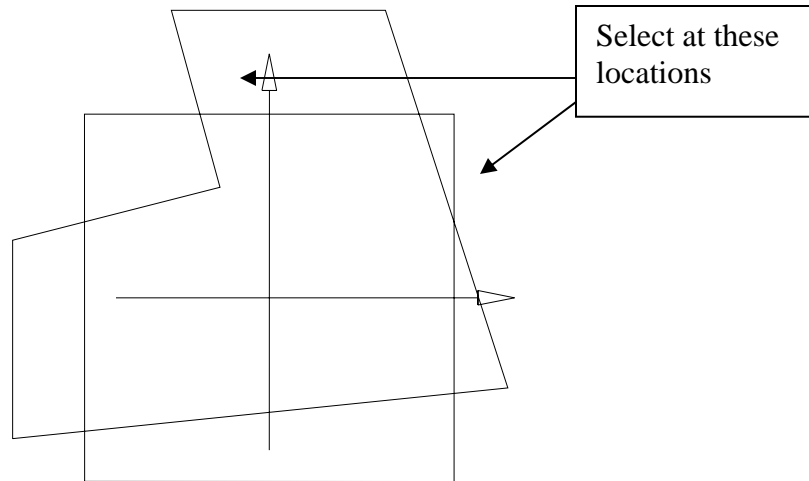

Figure 25
- Sketch a profile similar to the one shown in Figure 25.
- Select the lines shown in Figure 25 marked “Select at these locations”.